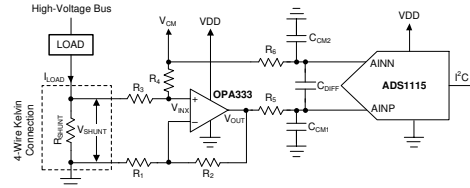

Figure 9-6. Low-Side Current Shunt Monitoring
Shunt-based, current-measurement solutions are widely used to monitor load currents. Low-side, current-shunt measurements are independent of the bus voltage because the shunt common-mode voltage is near ground. Figure 9-6 shows an example circuit for a bidirectional, low-side, current-shunt measurement system. The load current is determined by measuring the voltage across the shunt resistor that is amplified and level-shifted by a low-drift operational amplifier, OPA333. The OPA333 output voltage is digitized with ADS1115 and sent to the microcontroller using the I²C interface. This circuit is capable of measuring bidirectional currents flowing through the shunt resistor with great accuracy and precision.
1. To level-shift the ground-referenced signal to allow bidirectional current measurements while running off a unipolar supply. The voltage across the shunt resistor, V_{SHUNT} , is level-shifted by a common-mode voltage, V_{CM} , as shown in Figure 9-6. The level-shifted voltage, V_{INX} , at the noninverting input, is given by Equation 5.
A shunt resistor (R_{SHUNT}) is an accurate resistance inserted in series with the load as shown in Figure 9-6. If the absolute voltage drop across the shunt, $|V_{SHUNT}|$, is a larger percentage of the bus voltage, the voltage drop can reduce the overall efficiency and system performance. If $|V_{SHUNT}|$ is too low, measuring the small voltage drop requires careful design attention and proper selection of the ADC, operation amplifier, and precision resistors. Make sure that the absolute voltage at the shunt terminals does not result in violation of the input common-mode voltage range requirements of the operational amplifier. The power dissipation on the shunt resistor increases the temperature because of the current flowing through the resistor. To minimize the measurement errors resulting from variation in temperature, select a low-drift shunt resistor. To minimize the measurement gain error, select a shunt resistor with low tolerance value. To remove the errors caused by stray ground resistance, use a four-wire Kelvin-connected shunt resistor, as shown in Figure 9-6.